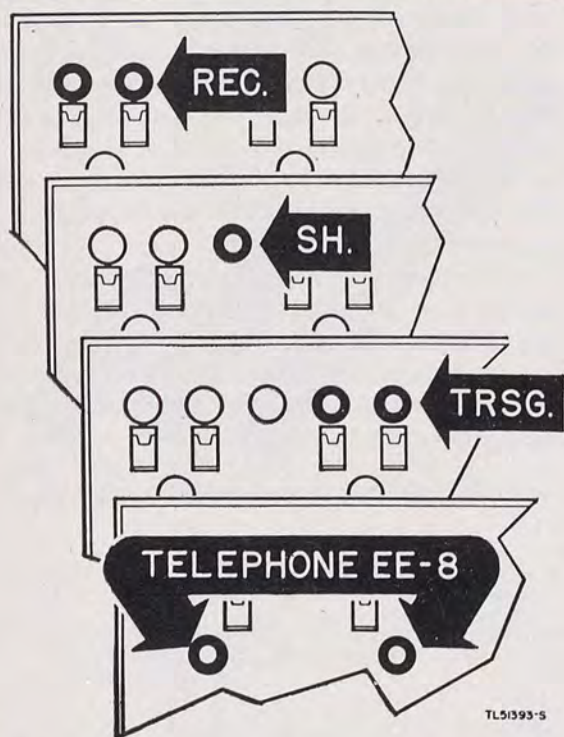

Figure 10. CABLE CONNECTIONS, REC., SH., TRSG., and TELEPHONE EE-8, Radio Transmitter T-14(\*).
(14) Cable connections (fig. 10). (a) REC. At a terminal station, the REC. binding posts connect to the receiving pair of spiral-four cable from Telephone Terminal CF-1-(\*) (Carrier). At a